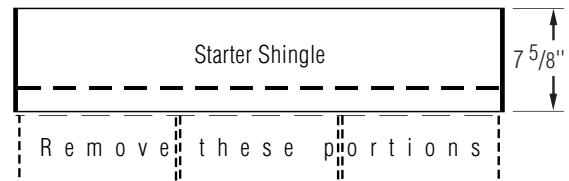

Figure 12-9: Make starter shingles that are 7⅝" in height.
1. Use CertainTeed Swiftstart Starter, or three-tab self-sealing shingles with the lower tab portions removed. Be sure that the starter shingles are at least 7⅝" in height. (Figure 12-9).